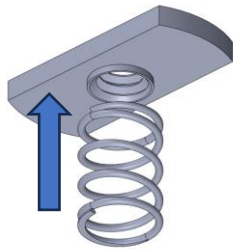

*Figure 1: 44" x 10" Panel Orientation #1*
2. Set flooring panels onto crossbars. Adjust the crossbars as needed. Reference Figure 1 -